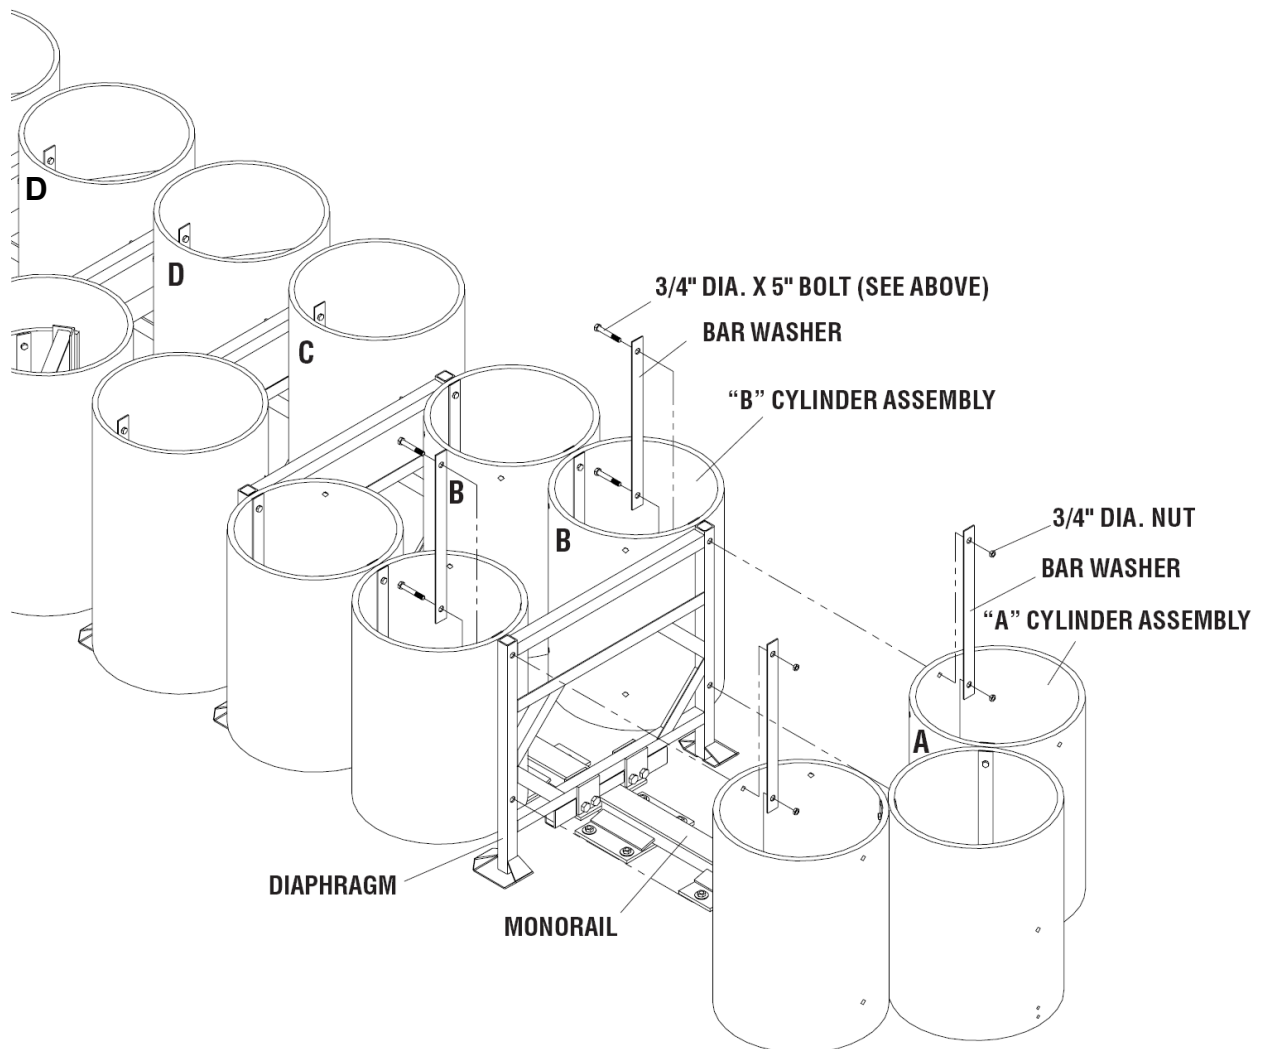

Figure 13
3. Reassemble "A" Cylinder/Diaphragm Assembly onto "B" Cylinder Assemblies as shown in Figure 13.